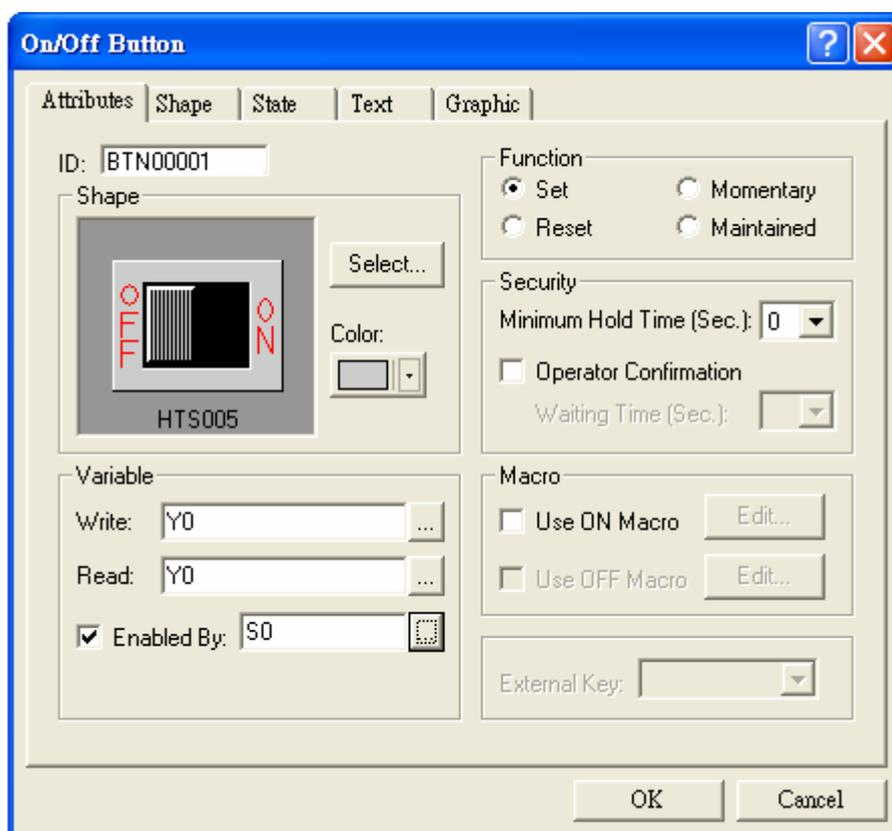

Figure 97. The [On/Off Button] Dialog Box
1. [Attributes] Tab: To specify the major properties. Each object has its attributes that define the operation; See Figure 97.